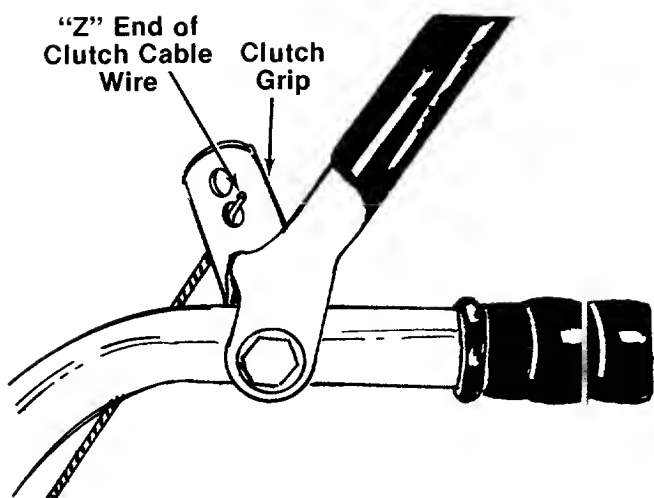

FIGURE 7.
8. Hook the "Z" end of clutch cable wire into bottom hole of clutch grip. See figure 7.